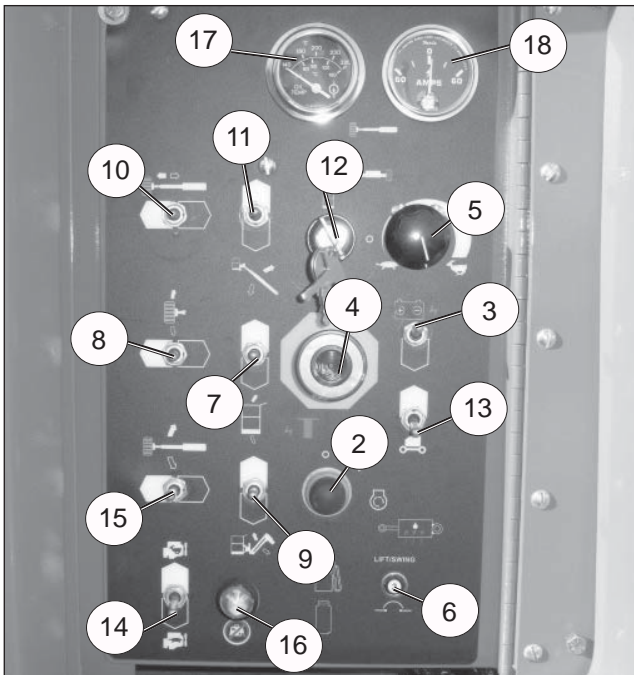

Figure 3 – Lower Controls and Indicators
5. Test each machine function (Lift, Slew, Telescope) from the lower control station by holding the ground operation switch up while operating the control toggle switches (ref: Figure 3 on page 6).
Use the following procedure to operate boom, turntable, or platform functions using the lower controls (ref: Figure 3 on page 6).